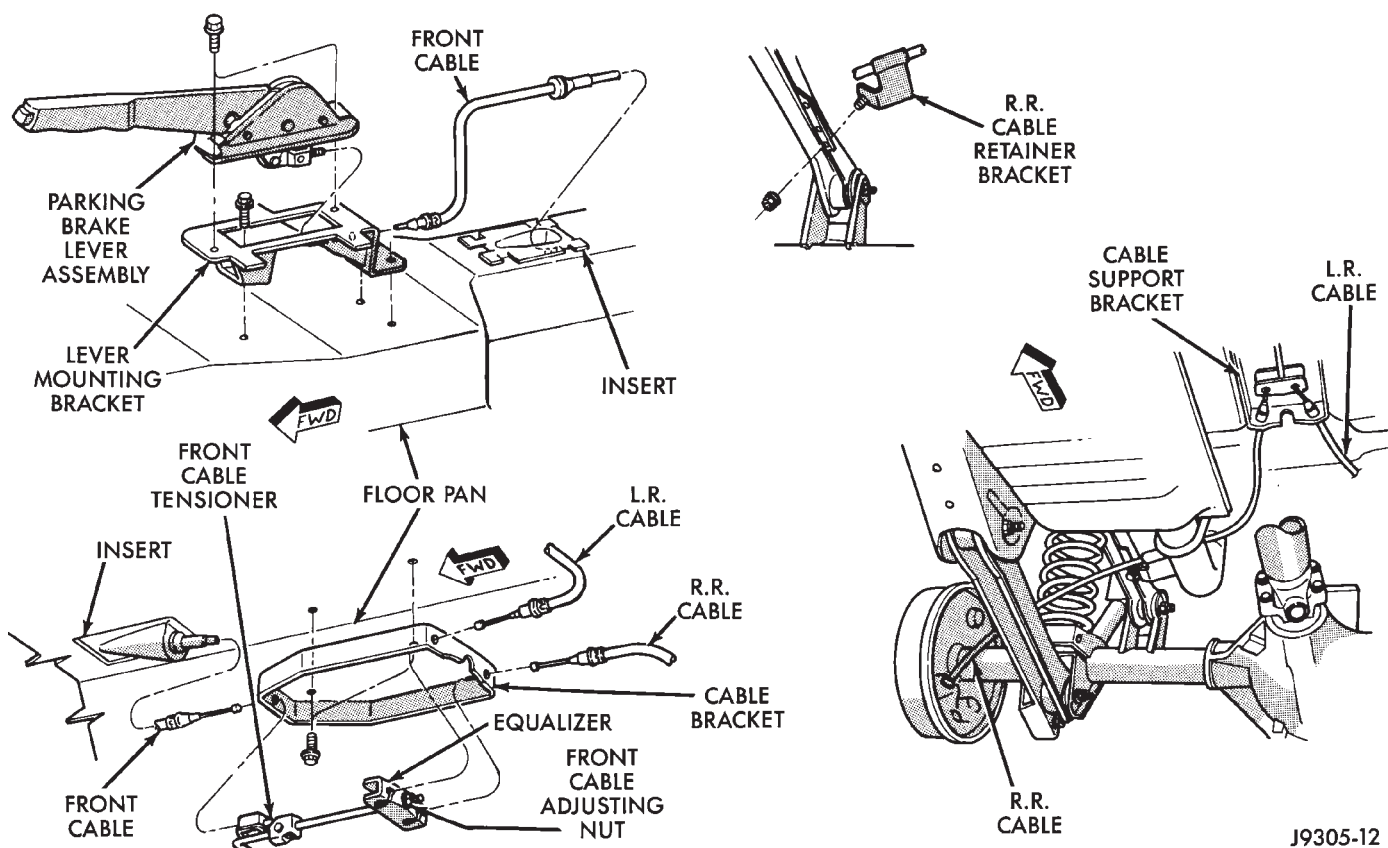

Fig. 7 Parking Brake Lever And Cable Components
(11) Remove screws attaching parking brake lever to bracket (Fig. 7) and lift lever upward for access to front cable.